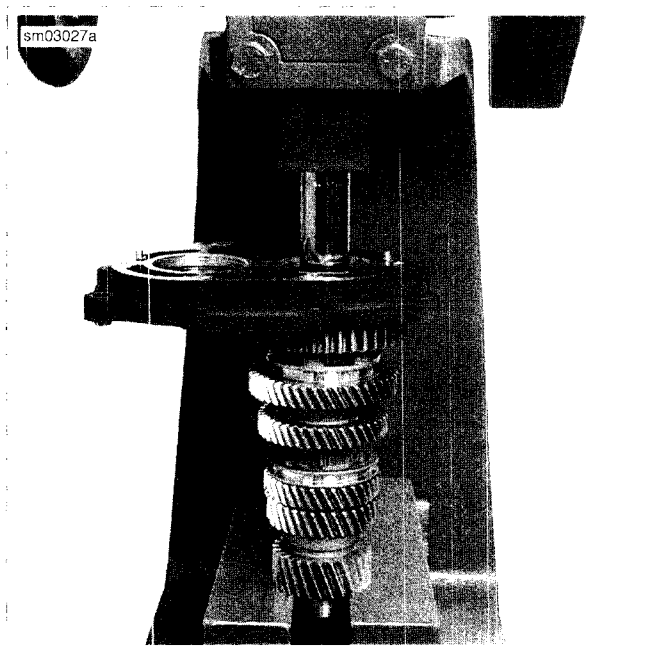

Figure 6-25. Installing Countershaft
7. See Figure 6-25. Place countershaft in an arbor press supporting countershaft 6th gear. Using a suitable socket, press on inner bearing race until side door bearing contacts countershaft 1st gear washer.